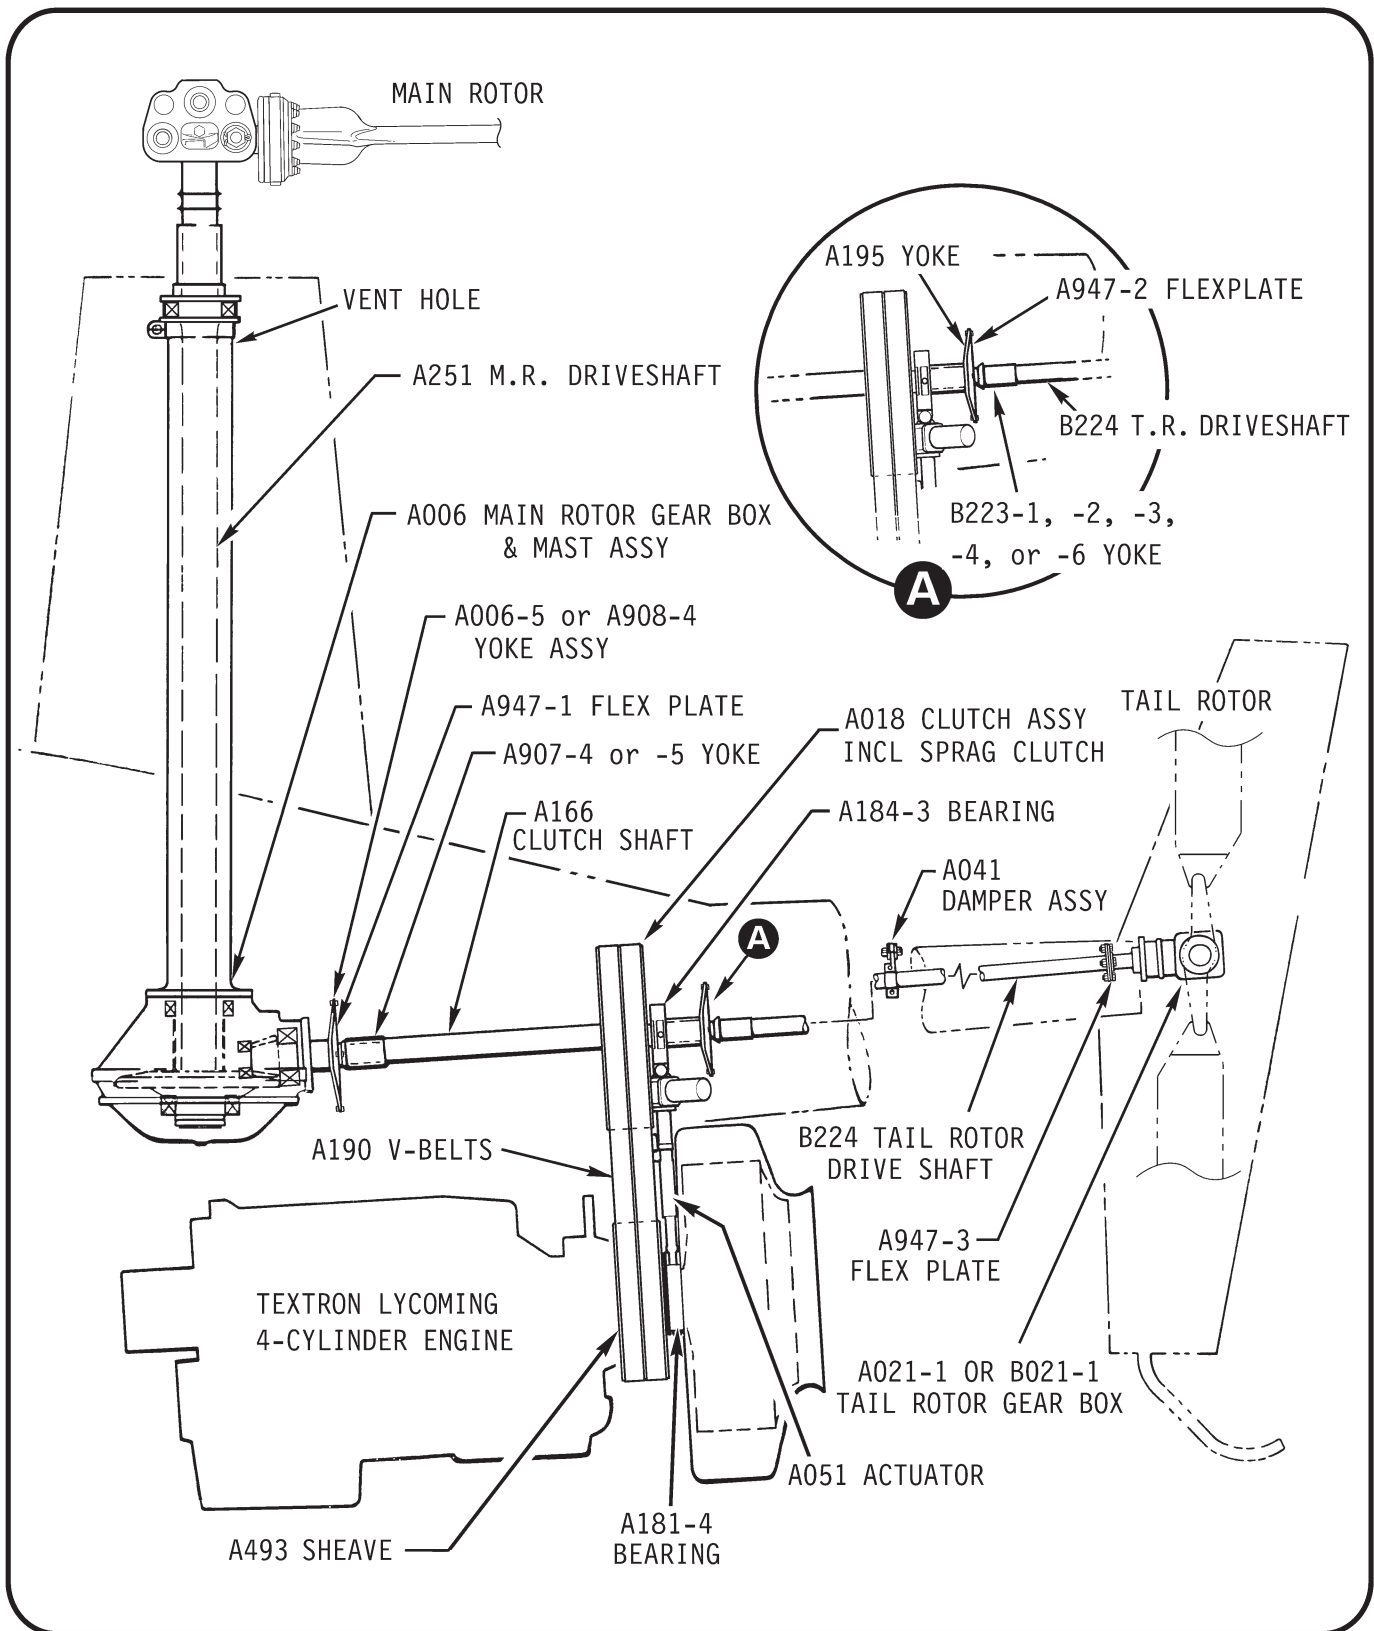

FIGURE 7-1 DRIVE TRAIN
7.002 Description (See Figure 7-1)
Prior to operation of a new, overhauled, or repaired gearbox, or if gearbox has ever been laid horizontally, 6 ounces of A257-2 gear oil must be injected into vent hole (see Figure 7-1) on top aft side of mast tube. Gearbox must remain vertical during and after injecting oil. Fill gearbox with oil, via fill port, to level indicated on sight glass decal.